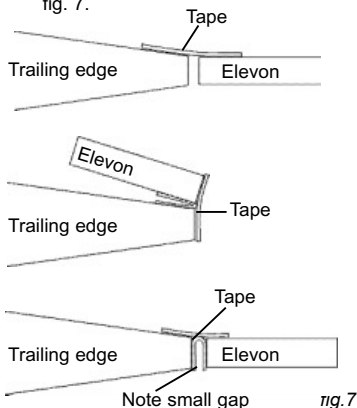

fig. 7
□6. Complete the hinge with another full length strip on the bottom as shown in fig. 7.